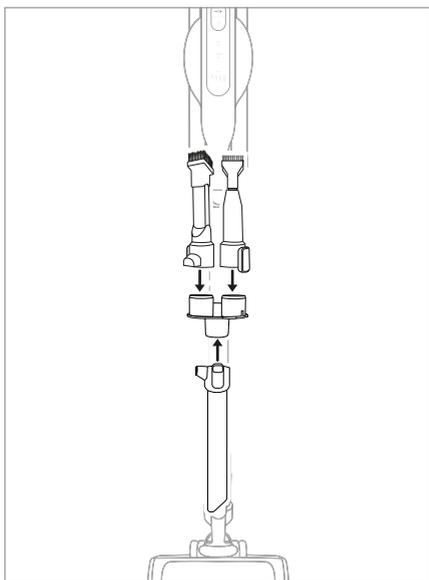

Fig. 17
- ◆ Remove accessories from the appliance and place them on the accessories holder **17** for storage (see Figure 17).